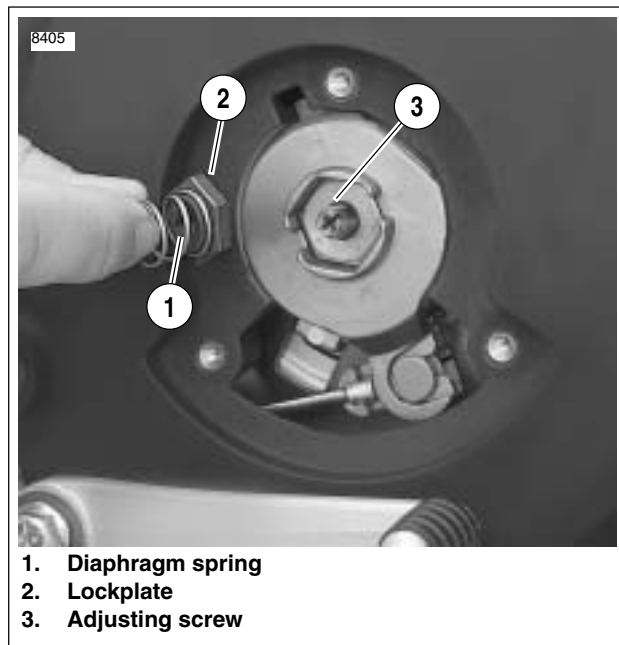

Figure 1-23. Clutch Adjustment
4. See Figure 1-23. Remove spring (1) and lockplate (2). Using a flat tip screwdriver, turn adjusting screw (3) counterclockwise until it lightly bottoms.